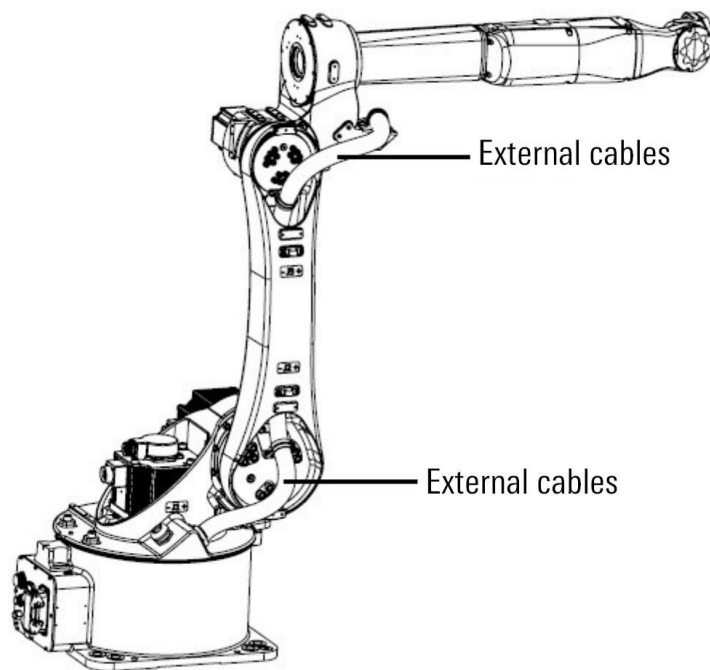

Figure 12-1 External cables of the manipulator
Step3. Check the external cables of the manipulator wrapped in the wire protection tube in the box as shown in Figure 12-1.